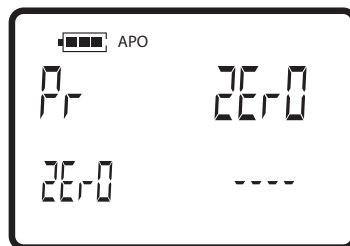

Figure 7
1. It is recommended the manifold be opened to the atmosphere before every working session. If display reads other than zero in the selected pressure units, zero can be re-set by pressing and holding CLR at main screen. **The Pressure Zero Screen (FIG 7)** appears and will then return user to **Main Screen (FIG 1)**, where both **Pressure Displays** should now read zero. This operation should be performed especially if manifold has been dropped or pressurized beyond 800 PSIG (55 bar) full scale.